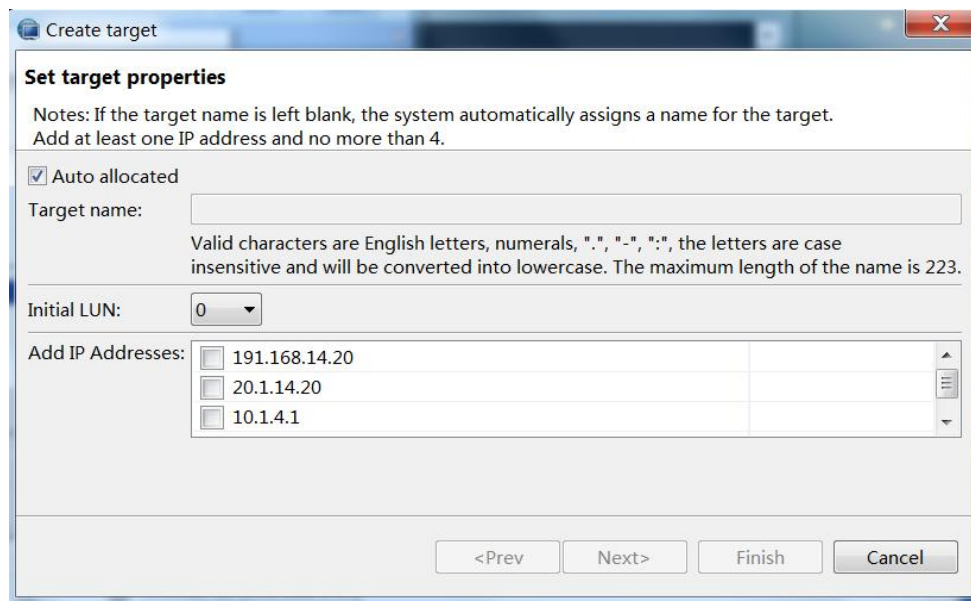

Figure 13-5 Creating a target
- (1) From the "Device" tab, expand the path [**Storage Controller** > **hostname** > **Target Manager** > **ISCSI Target**]
- (2) Right click the [**ISCSI Target**] and select [**Create**], and on the popup dialogue box, set the Target name and IP address, as shown in Figure 13-5: